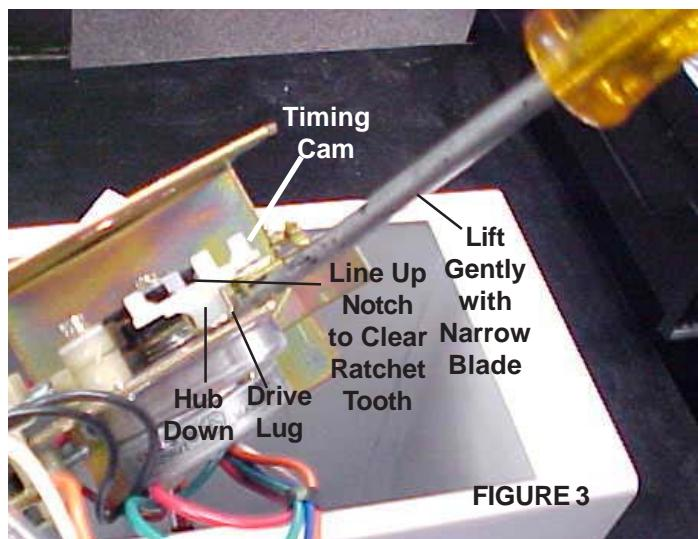

FIGURE 3
1. Rotate cam by hand until "V" notch lines up underneath the ratchet tooth. See FIG. 3.